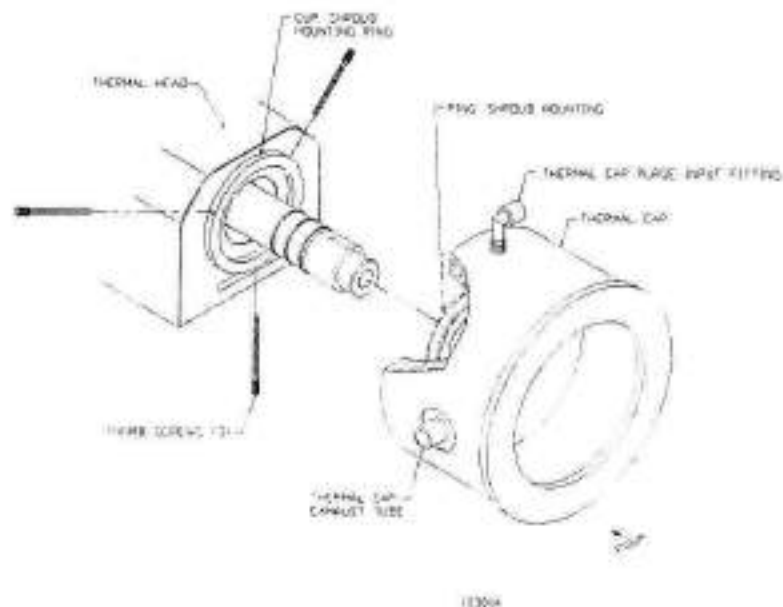

Figure 2-4. Thermal Cap Attachment
1. At initial installation of the TP04010A, install the three thumbscrews in the mounting ring at the head output (see Figure 2-4). (Thumbscrews are packed with the thermal cap in a separate box.)